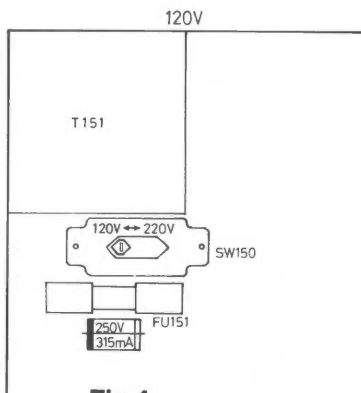

Fig.4
1. Locate Tuner P.C.Board. (See Fig.4 and 5)